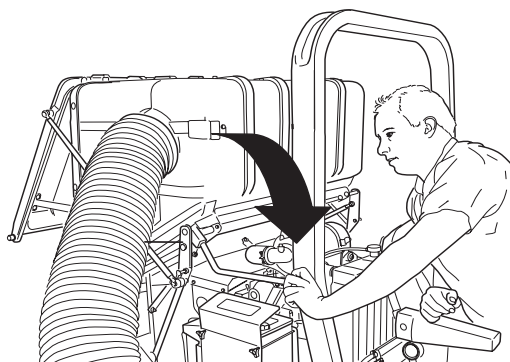

Figure 1-1. Dumping the Hopper
B. Pull downward on the hopper door handle to allow the hopper sweeper to remove the material from inside the hopper. See Figure 1-1.